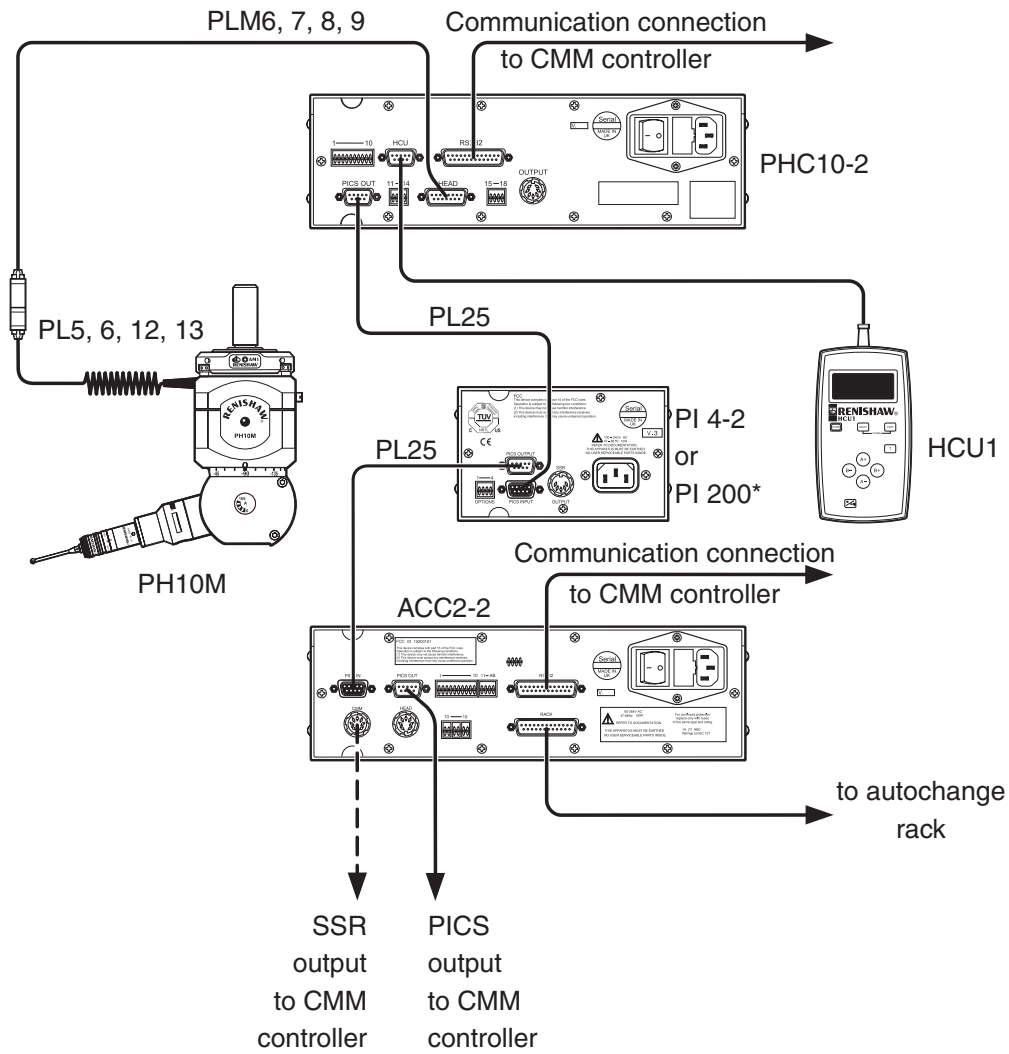

Figure 23 - PH10 system with standard two-wire touch trigger probe and autochange
- The PH10M system with standard two-wire touch-trigger probes and autochange (see figure 23 and table 22)